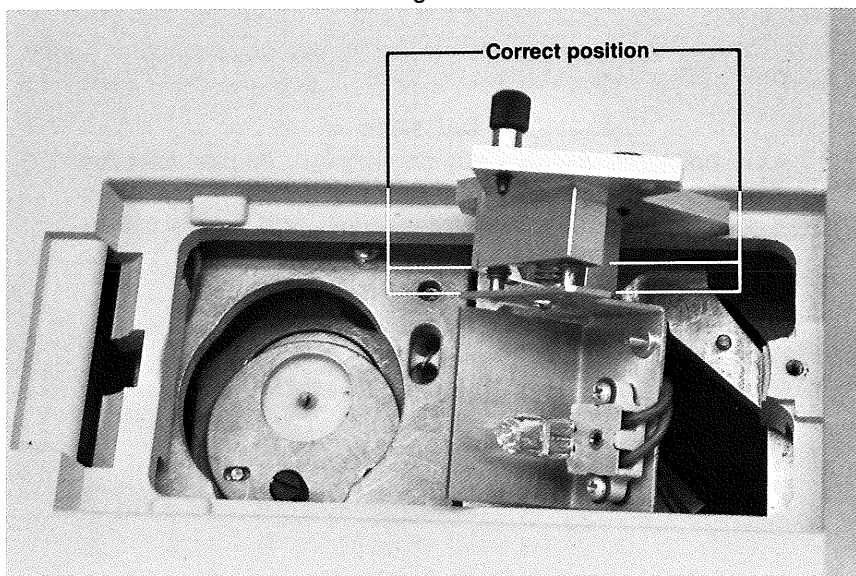

Figure 8-12.
8. Check to ensure that the top of the source mount is positioned as shown in Figure 8-12.